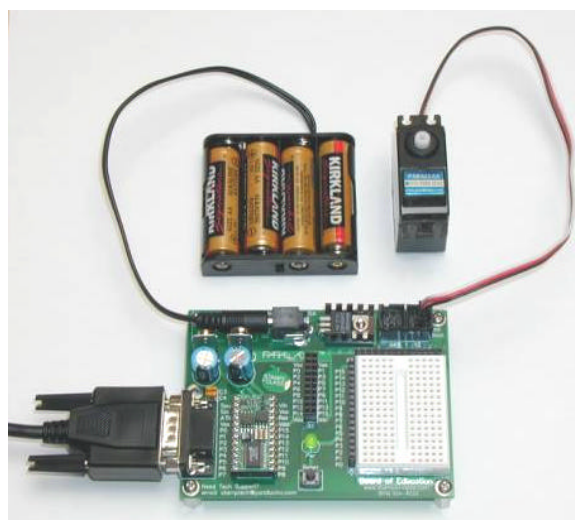

Figure 1.21: Servo reassembled and ready for testing.
- ❑ Plug the reassembled servo back into the BOE as shown in Figure 1.21.